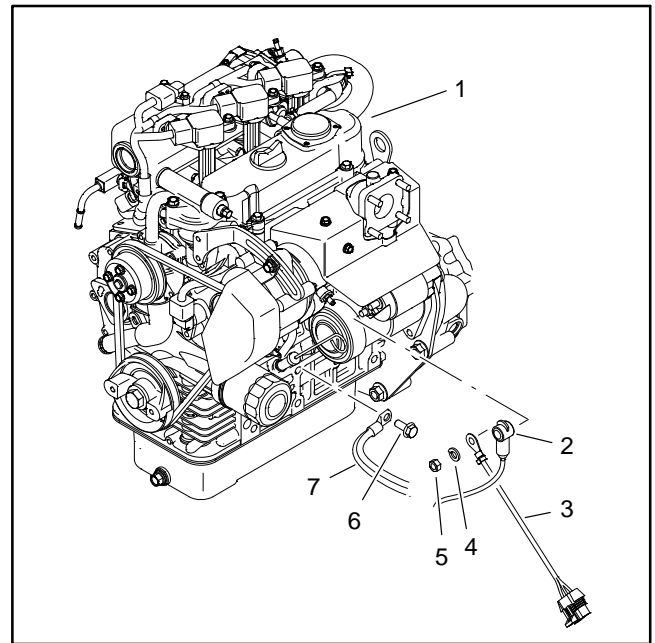

Figure 15
F. Negative (-) battery cable and harness ground connector secured to engine mount (Fig. 15). Note location of ground connections and flange head screw for assembly purposes.
- F. Negative (-) battery cable and harness ground connector secured to engine mount (Fig. 15). Note location of ground connections and flange head screw for assembly purposes.